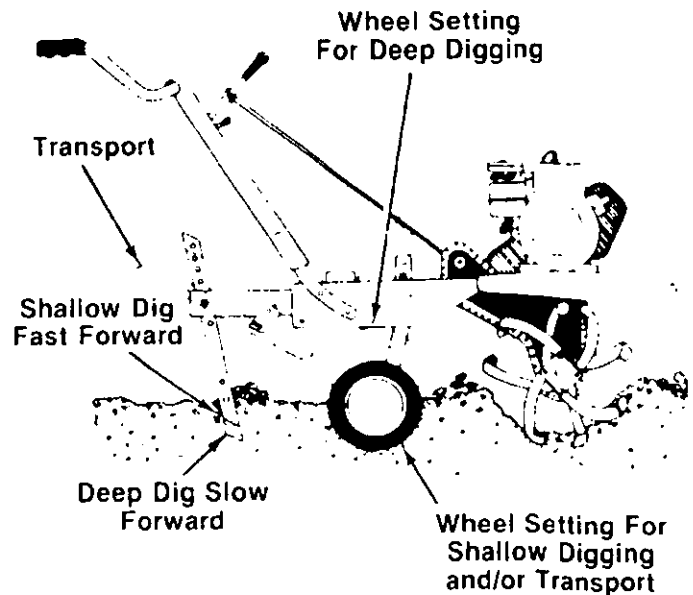

FIGURE 25.
2. **Depth Bar Adjustment:** The depth bar acts as a brake for the tiller and controls the depth and speed at which the machine will operate. See figure 25. Remove the clevis pin and hairpin cotter to raise or lower depth bar.